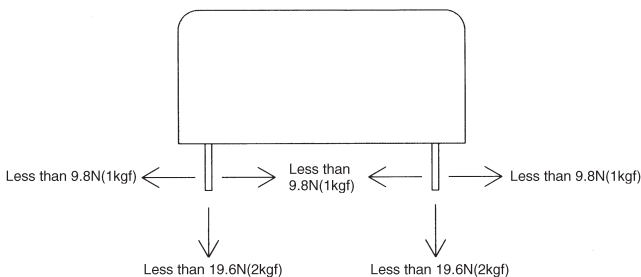

Fig.8.1 Stress onto the pins
■When too much stress is applied on the input/output pins of the unit, the internal connection may be weakened. As below Fig.8.1, avoid applying stress of more than 9.8N (1kgf) on the pins horizontally and more than 19.6N (2kgf) vertically.